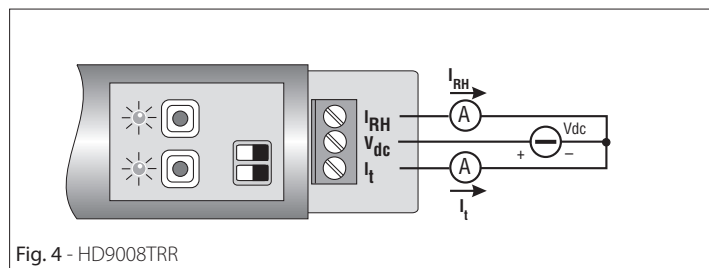
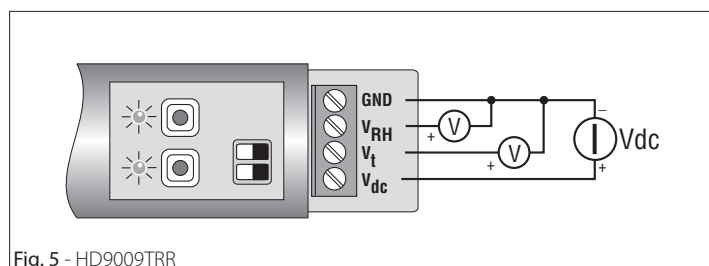

Fig. 4 - HD9008TRR
Fig. 5 - HD9009TRR
2. Connect the wires to provide the instrument with power supply, as shown in the connection diagrams of fig. 4 (HD9008TRR) and of fig.5 (HD9009TRR).